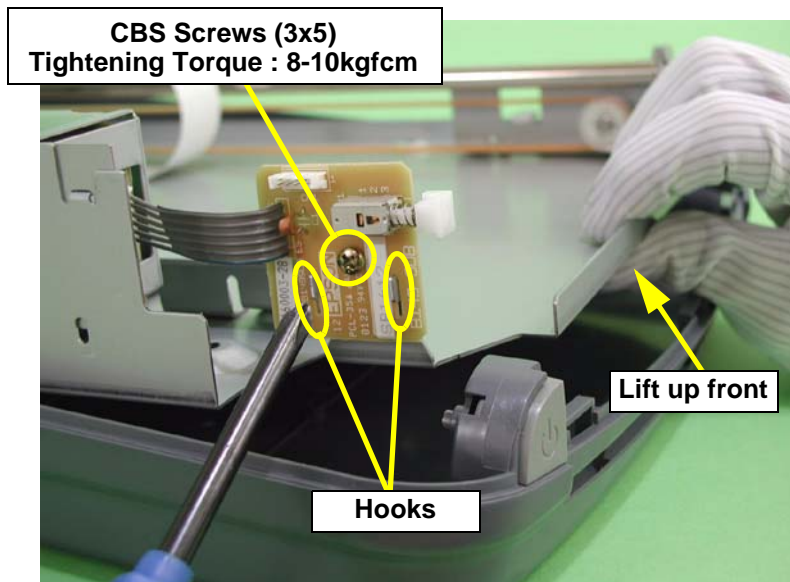

Figure 4-29. SUB_A Circuit Board Removal (2)
6. While lifting up the front of the base frame, remove the screw (CBS, M3x5), and then disengage the two hooks and remove the SUB_A circuit board. (See Figure 4-29)